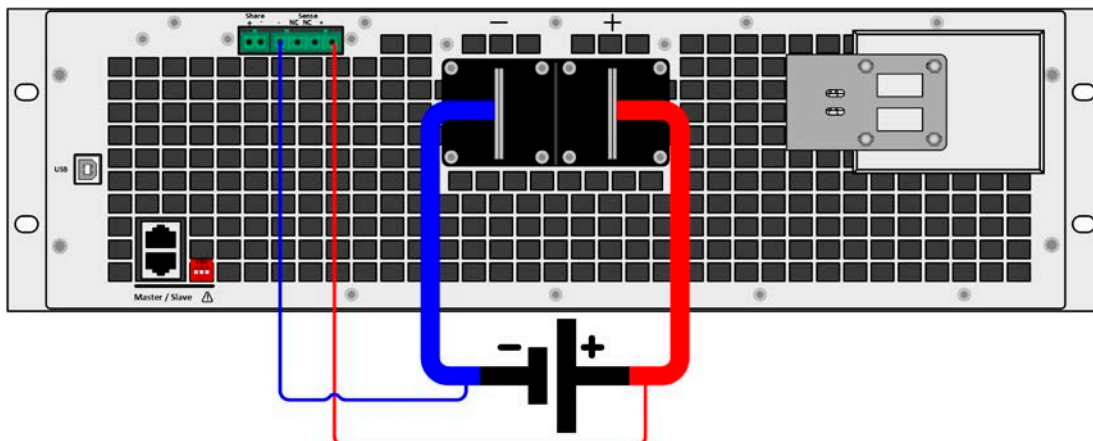

Figure 8 - Example for remote sensing wiring
- Remote sensing is only effective during constant voltage operation (CV) and for other regulation modes the sense input should be disconnected if possible, because connecting it generally increases the oscillation tendency.
- Sensing cables must be connected + to + and - to - at the source, otherwise the sense input of the electronic load can be damaged. For an example see Figure 8 below.